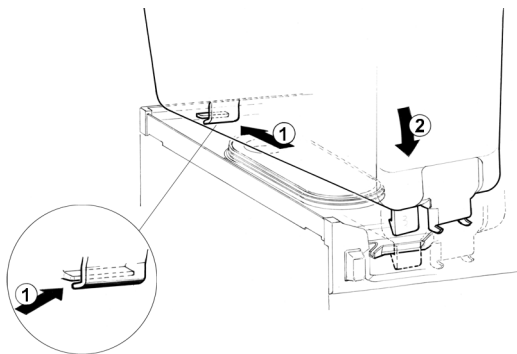

figure 7
**5** Place bowl on the unit. Wet the gasket for ease of insertion. Please take care that the hook on the backside of the bowl be inserted properly in its seat on the upper drip plate. (see figure 7).